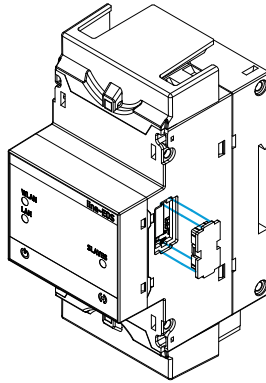

Figure 8: Installation step 1.
1.- Using a flat head screwdriver, remove the expansion connector's protective covers located on the side of the devices, (**Figure 8**).